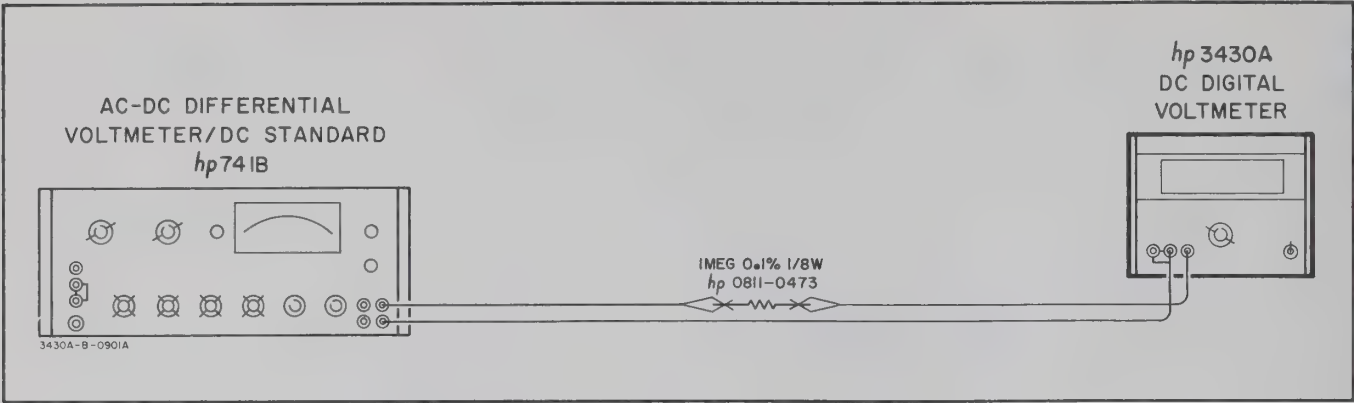

Figure 5-2. Input Resistance Check
- a. Connect 3430A as shown in Figure 5-2. The 1 MΩ resistor (-hp- Part No. 0811-0473) and the 3430A input resistance form a series voltage divider.